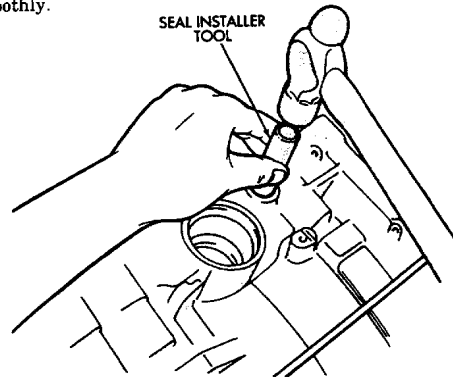

Fig. 4 Installing Manual Shaft Seals
- (5) Lubricate new seals with petroleum jelly and install them in case (Fig. 4).